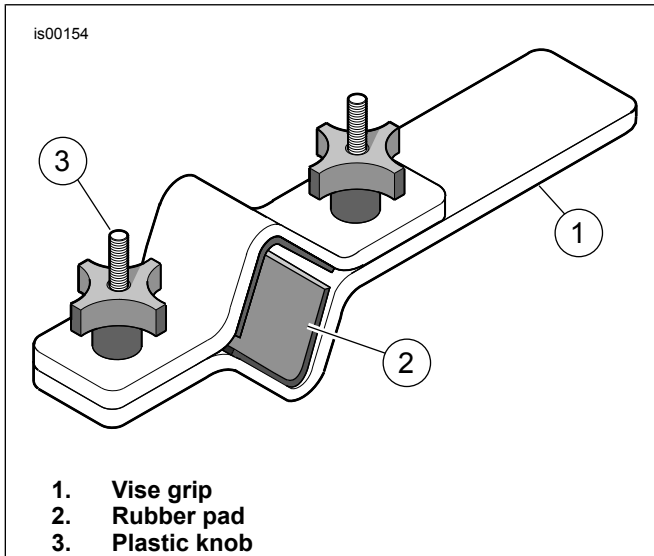
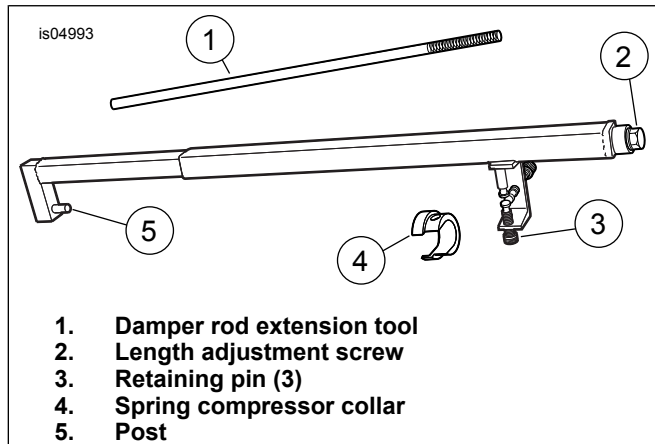
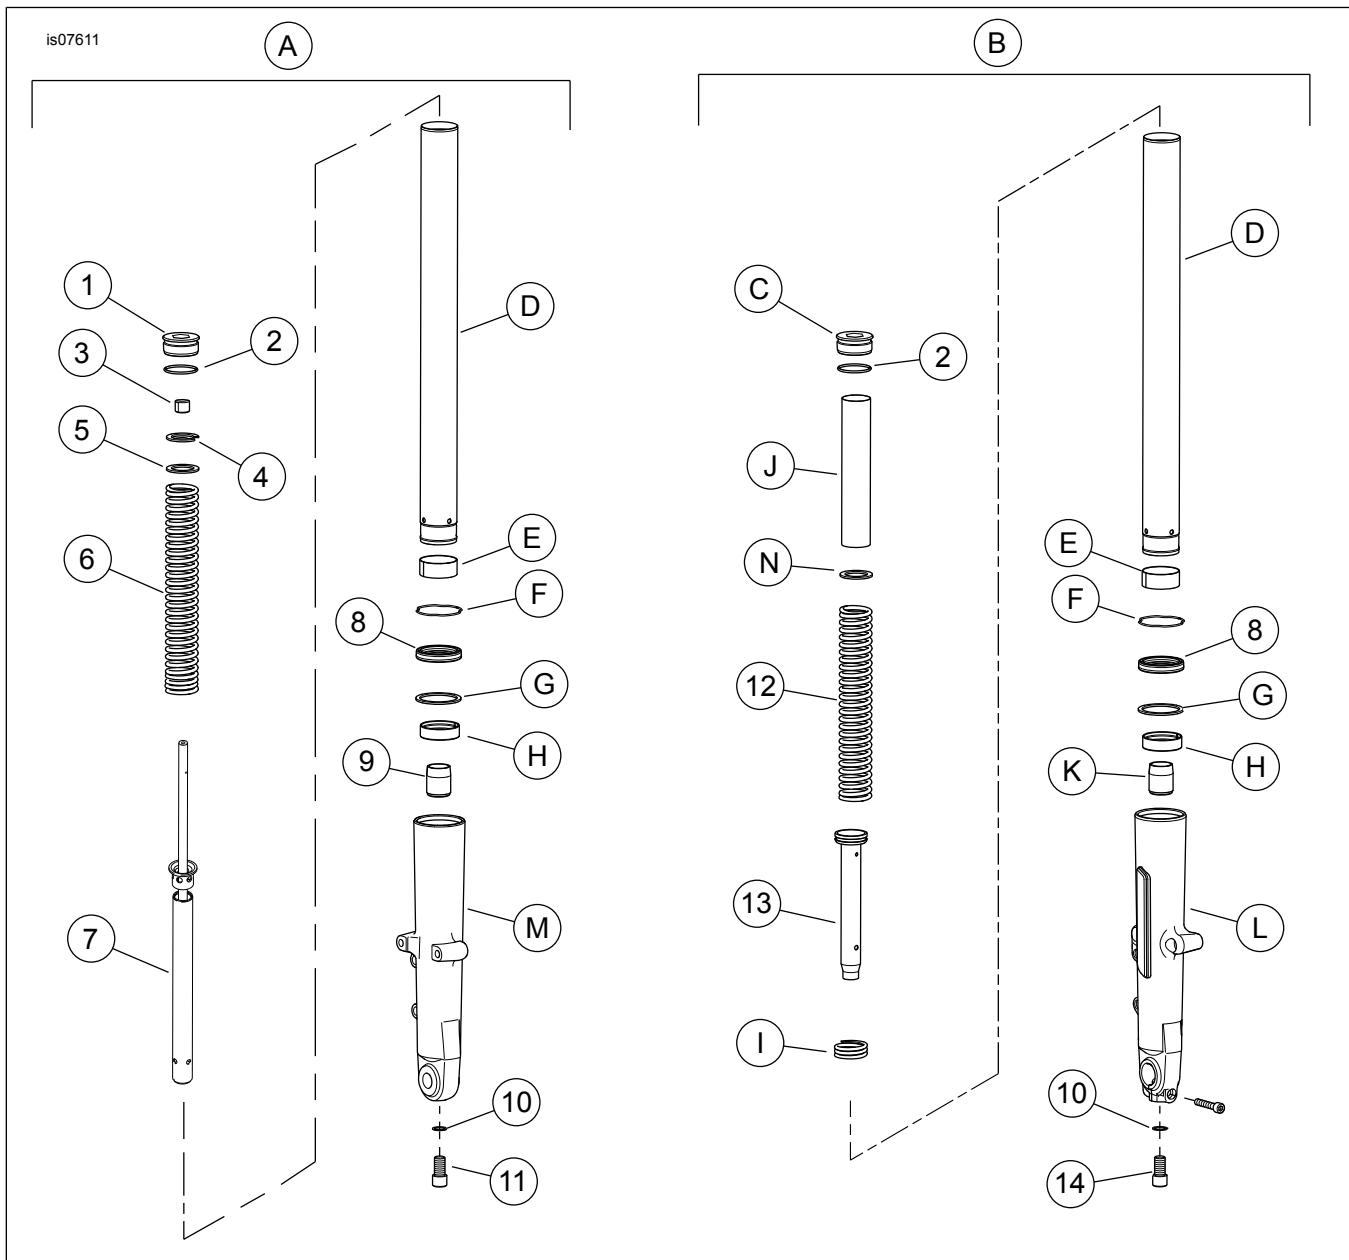

Figure 1. Fork Tube Holder (HD-41177)
Figure 4. Fork Spring Compressing Tool (HD-45966)
Figure 7. Service Parts: Touring Cartridge Front Fork Kit
1. See Figure 1. Install fork in Fork Tube Holder (HD-41177) as follows:
- a. Clamp end of tool (1) in vise in a horizontal position.
2. See Figure 1. Install fork in Fork Tube Holder (HD-41177) as follows:
- b. See Figure 7. With the fork bolt upward, clamp fork tube (D), between rubber pads on inboard side of tool. Tighten knobs until fork tube is securely held.
17. See Figure 4. Install fork spring compressing tool:
- Clamp tool in vise in a vertical position with length adjustment screw (2) upward.
- Place hole at bottom of fork slider over post (5) at bottom end of tool.
- Place flat washer (Item 5, Figure 7), over the damper rod extension tool and on top of spring. Place spring seat (Item 4, Figure 7), concave side up, on top of the flat washer. With the smaller OD upward, place spring compressor collar (item 4, Figure 4) over spring seat and flat washer.
- Adjust tool as necessary until three retaining pins (3) engage blind holes in spring compressor collar (4). Turn length adjustment screw counterclockwise to lengthen and clockwise to shorten.
20. See Figure 7. Install **new** jamnut (3) with non-threaded end over the damper rod first. Thread onto damper rod until it bottoms out on the shoulder.
23. Install **new** O-ring (2) onto **new** fork bolt (1). Thread fork bolt onto threaded end of damper rod until it bottoms. Turn jamnut counterclockwise until it makes firm contact with the fork bolt. Tighten jamnut to $20 \pm 2.5 \text{ N}\cdot\text{m}$ ($15 \pm 2 \text{ ft}\cdot\text{lbs}$).